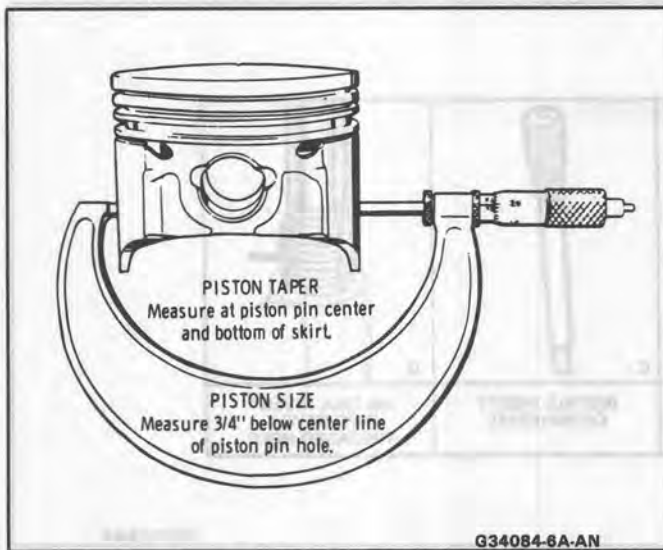

Figure 52 Measuring Piston
- b. Measure the cylinder bore diameter. When measuring piston for size or taper, measurement must be made as shown in Figure 52.